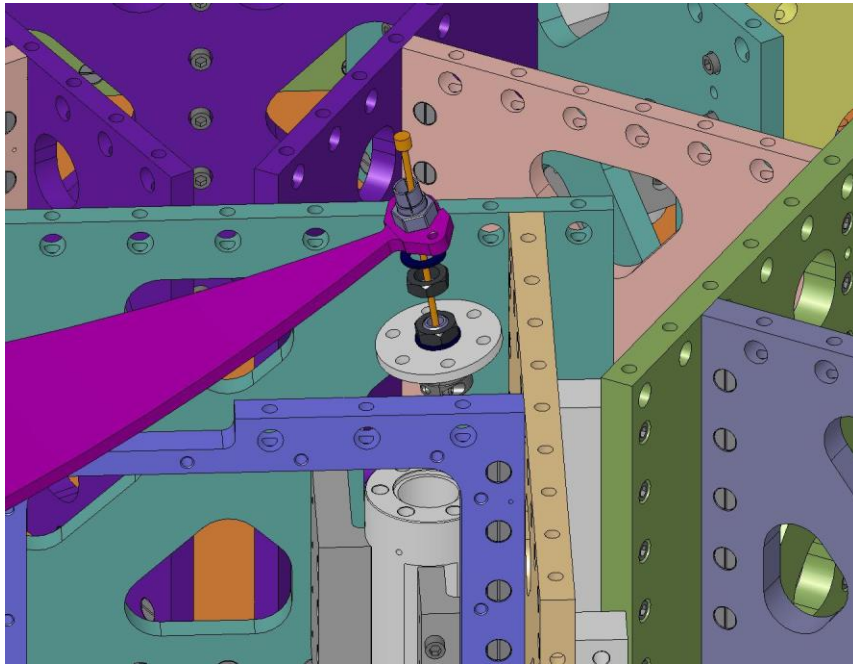

Figure 3.85. Slip a Flexure Mount over the end of the Flexure, then engage it in the Spring.
- Slide a **Flexure Mount** (D071103) over the top of the **Flexure**, as shown in **Figure 3.85**. Seat the **Flexure Mount** within the mating hole in the **Spring**.